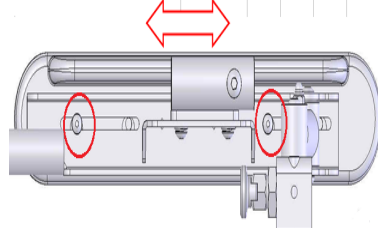

Figure 5-70
5.3.4.2.19 Use the #3 Allen Key Wrench to loosen the screws. Adjust the armrest pad forwards or backwards and re-tighten the screw. (Figure 5-70)